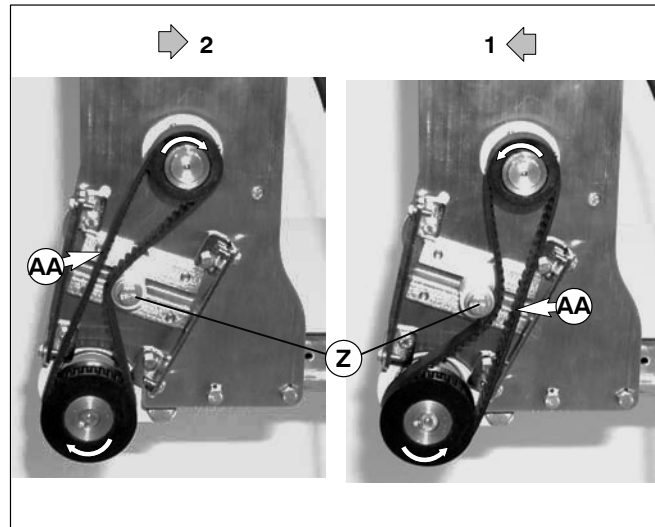

Figure 6
5. Depending on conveyor belt travel (direction 1 or 2 of Figure 6), locate timing belt tensioner (Z) as shown. Do not tighten tensioner screw.
8. Tension timing belt to obtain 0.125" (3 mm) deflection for 1.0 lb (456 grams) of force at timing belt mid-point (AA of Figure 6). Tighten tensioner screw to 92 in-lb (10.4 Nm).